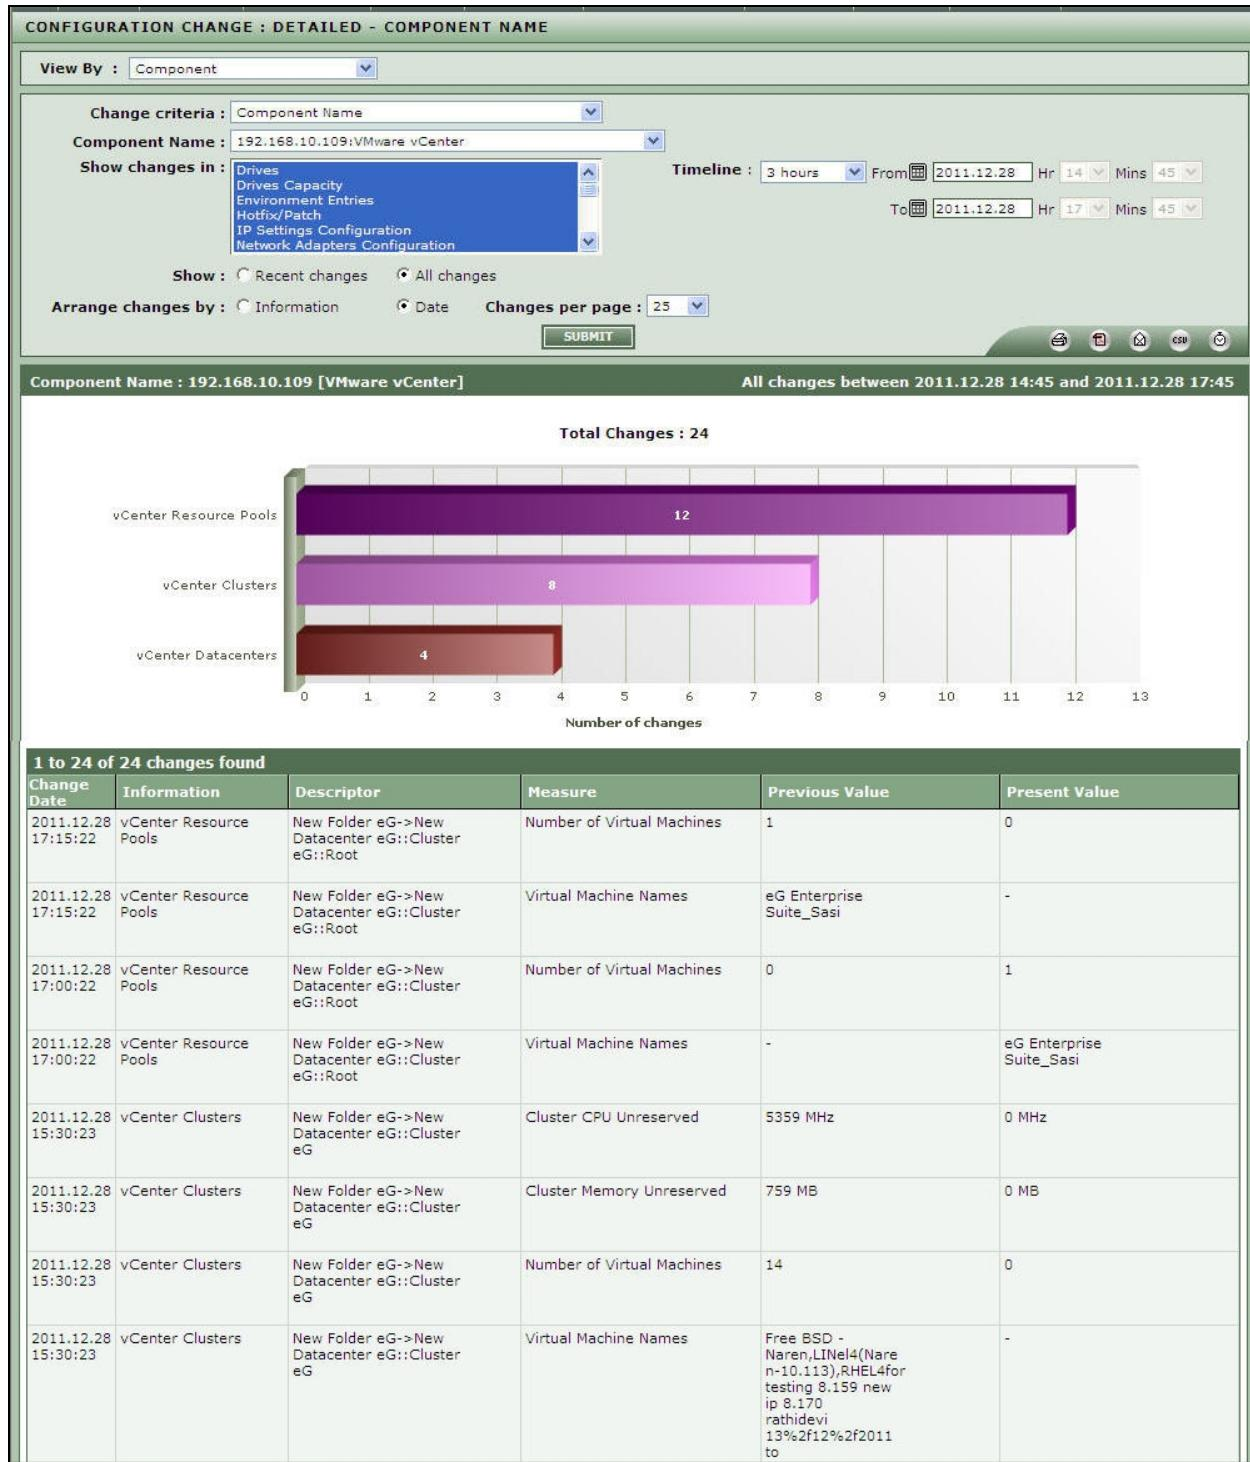

Figure 4.4: Viewing configuration changes for a specific component
1. First, select a **Component Name** from the **Change Criteria** list box as depicted in Figure 4.4 . This will invoke **Component Name** list box. Select a component from the **Component Name** list box, for which you would like to view the configuration changes.
4. Next select a timeperiod from the **Timeline** list box as depicted in Figure 4.4. Using this option you can view the configuration changes that were effected on the basis of days, weeks and hours. The maximum duration of period available in this list box is 1 month. If your requirement is
8. Finally, click the **SUBMIT** button (see Figure 4.4).